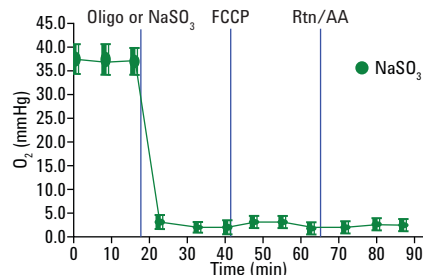

Figure 11. Hypoxia group O_2 levels after recalibration are 0 ± 5 mm Hg.
- a. Hypoxia group wells should be zero (± 5 mm Hg) (Figure 11).